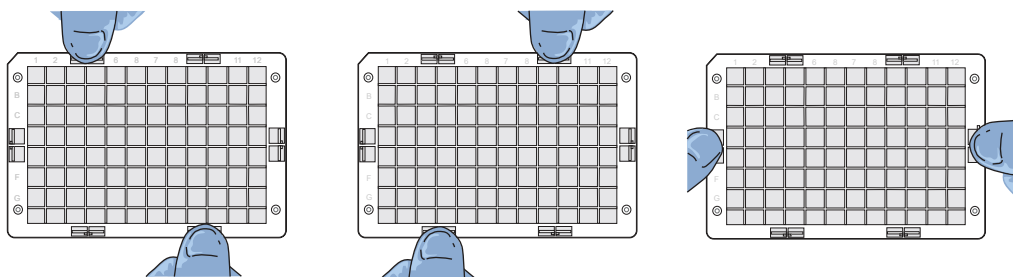

Figure 37 Clamping verification steps.
5. Verify the plate clamping step to ensure that the array plate is securely fastened to the hybridization tray. Using your thumbs, press the array plate downward following the positions that are specified in Figure 37. *No clicking sound indicates proper clamping.*